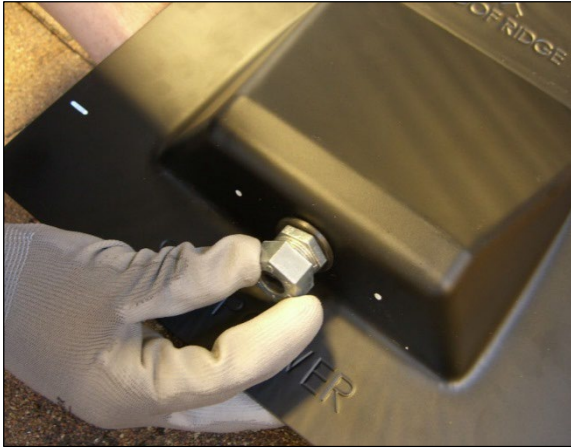
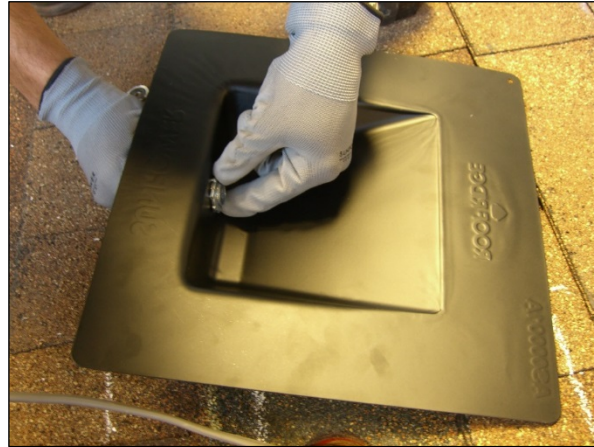

Fig. B7
Fig. B8
10. Install and torque the gland and back nut as per the manufacturer guidance (Fig. B7 and Fig. B8).